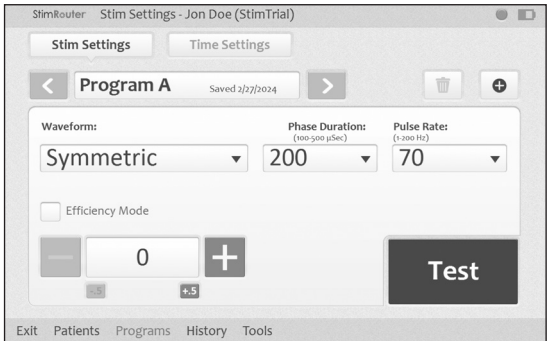

Figure 8-9: Stim Settings window.
2. From the Patients List, select a patient and press "Open". The Stim Settings window will open. **See Figure 8-9.**